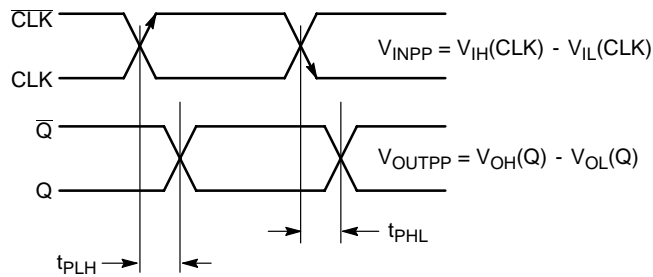

Figure 4. AC Reference Measurement
21. $t_{SKEW} = |t_{PLH} - t_{PHL}|$ for a nominal 50% differential clock input waveform (Figure 4).